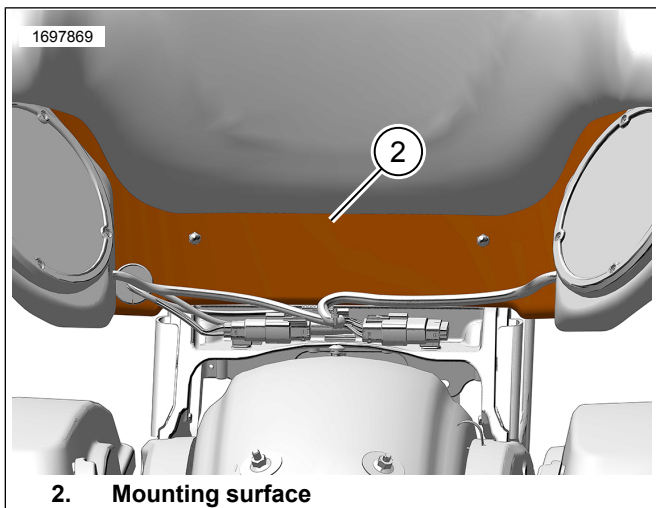

Figure 10. Mounting Surface
- 2. See Figure 10. Install wire harness retaining clips.
- b. Allow mounting surface (2) to completely dry.